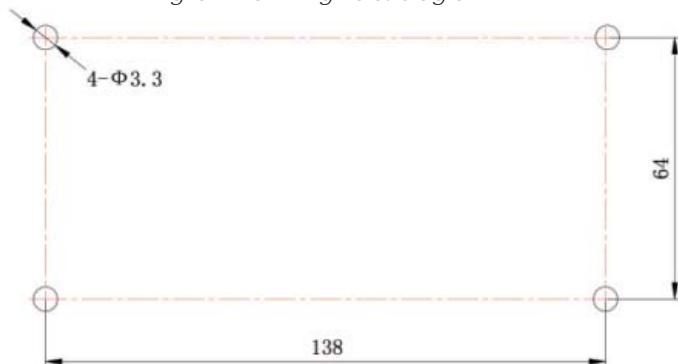

Fig. 3.10 Installation holes of the electrical box rear cover
- If the centralised controller is installed using the supplied metal box, make 4 holes for installation, according to fig. 3.10.
4. In phase ①, extract the power and communication cables and pass them separately from the wiring hole of the electrical box's rear cover. Do not pass the cables from the same hole.
5. In phase ②, align the rear cover of the electrical box with the mounting holes on the wall with the ST4,2x16 FA screw.
6. In phase ③, extract the cables that connect the touch screen and the rear cover of the controller. Place the touch screen in a safe place.
7. In phase ④, connect the communication cables to terminals G1, G2 and connect the neutral cable and the voltage cable to terminal N, L; connect the earth cables to position  on the rear cover of the electrical box. Secure them with the M4x12 screw.
8. In phase ⑤, place the rear cover of the controller on the rear cover of the electrical box with screw ST4,2x9,5 TC.
9. In phase ⑥, connect the cables between the touch screen and the rear cover of the controller.